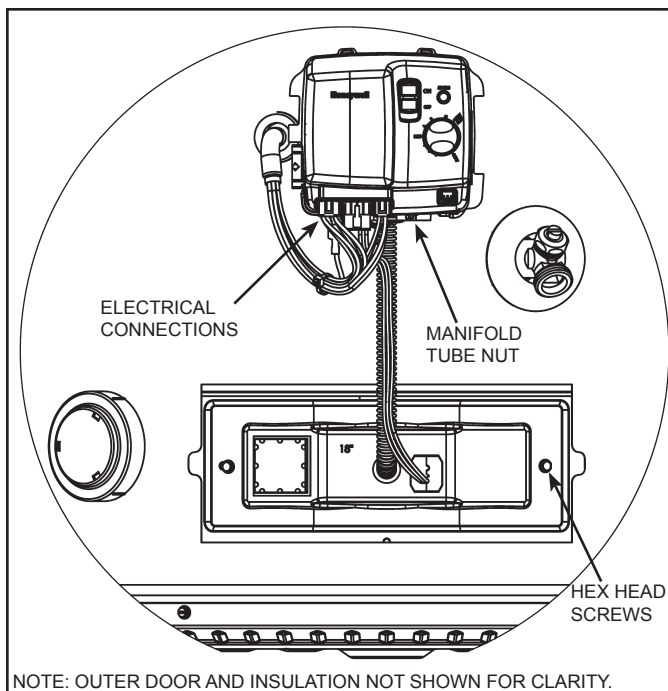

Figure 26. Electrical Connections at the Bottom of the Gas Valve
7. Unplug all the electrical connections from the bottom of the gas control valve/thermostat. See **Figure 26** (page 23).
8. Using a 3/4" open end wrench remove the manifold tube from the gas control valve/thermostat (turning counter-clockwise for natural gas, clockwise for LP). Grasp the manifold tube and push down slightly to free the manifold tube from the gas control valve/thermostat. See **Figure 26** (page 23).
**Note:** Do Not apply any thread sealant at this connection). To prevent any cross threading the manifold tube should be started by hand (turn clockwise for natural gas, counter-clockwise for LP). Upon tightening with the fingers and confirming it has not been cross threaded, tighten nut with an 3/4" open end wrench. See **Figure 26** (page 23).
7. Reconnect all the electrical connections to the bottom of the gas control valve/thermostat, gently pushing each connector up snapping into place. See **Figure 10** (page 10) and **Figure 26** (page 23).